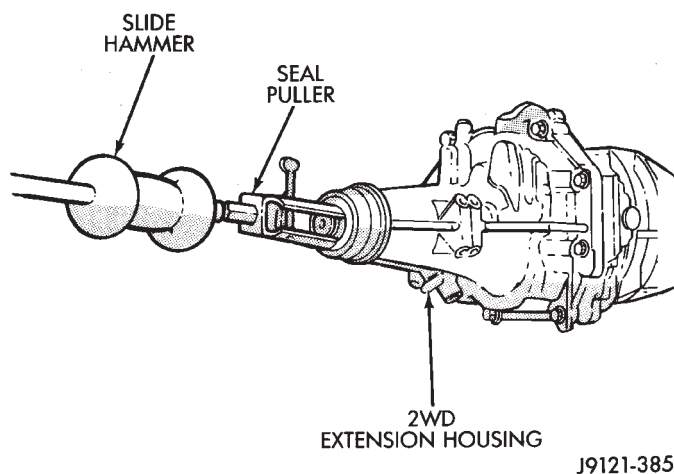

Fig. 1 Removing Extension Housing Seal
(8) Reach up and around the transmission and insert shift lever in shift tower. Press lever retainer downward and turn it clockwise to lock it in place. Then install lever dust boot on shift tower.
(9) Connect engine timing sensor.
(10) Remove jack from under transmission and mount transfer case on jack.
(11) Align transfer case and transmission shafts and install transfer case. Tighten transfer case-to-transmission nuts/bolts to 35 N·m (26 ft. lbs.) torque.
(12) Move jack stand from under engine and reposition it under transmission. Then remove transmission jack.
(13) Connect transfer case vacuum hoses and linkage. Check and adjust linkage if necessary.
(14) Connect transmission and transfer case vent hoses and backup light switch wires.
(15) Install clutch sleeve cylinder.
(16) Connect vehicle speed sensor and wires.
(17) On XJ, install rear crossmember and attach cushion and bracket. Tighten crossmember-to-frame bolts to 41 N·m (30 ft. lbs.) torque. Tighten transmission-to-rear cushion and bracket bolts/nuts to 45 N·m (33 ft. lbs.) torque.
(18) On YJ, install rear cushion and bracket and skid plate. Tighten attaching bolts/nuts to indicated torque (Fig. 1).
(19) Align and install front/rear propeller shafts. Tighten shaft U-joint clamp bolts to 19 N·m (170 in. lbs.) torque.
(20) On XJ, install skid plate if removed. Tighten bolts to 42 N·m (31 ft. lbs.) torque. Tighten stud nuts to 17 N·m (150 in. lbs.) torque.
(21) Top off transmission and transfer lubricant levels.
(22) Remove supports and lower vehicle.
(1) Remove release bearing, fork, retainer clip and clutch housing from transmission. Also remove shift lever if not previously removed.
(2) On 2-wheel drive models, remove extension housing seal (Fig. 1).